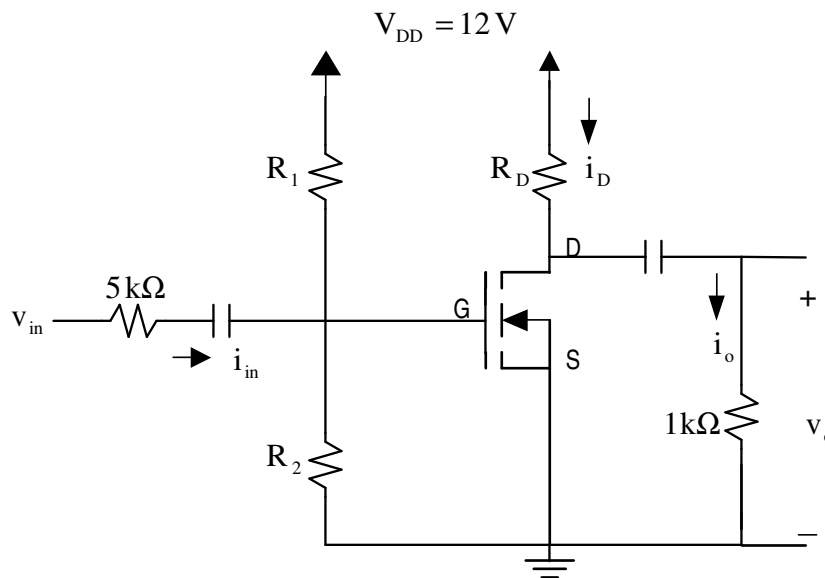

Figure 7.10: Common-source amplifier using an NMOS transistor
An NMOS transistor has $K_N = 2 \text{ mA/V}^2$ and $V_T = 0.5 \text{ V}$. It is used in the common-source (CS) configuration shown in **Figure 7.10**. Design the circuit so that its Q-point is at $V_{DSQ} = 6 \text{ V}$ and $I_{DQ} = 8 \text{ mA}$, and $R_{in} = 60 \text{ k}\Omega$ ($\pm 5\%$). Select standard values of resistors. Determine the voltage, current, and power gains of the amplifier. If the peak-to-peak variation of the input voltage is 2 mV , what is the peak-to-peak variation of the output voltage?